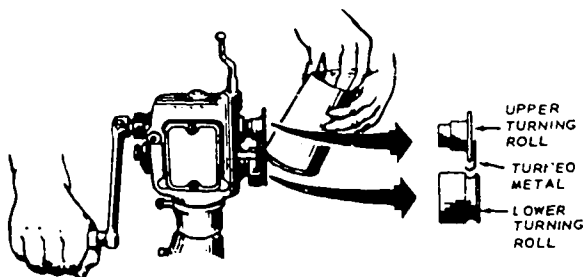

Figure 3-8. Turning machine.
**Turning machine.** The turning machine, illustrated in figure 3-8, is used to form rounded flanges for wired edges.